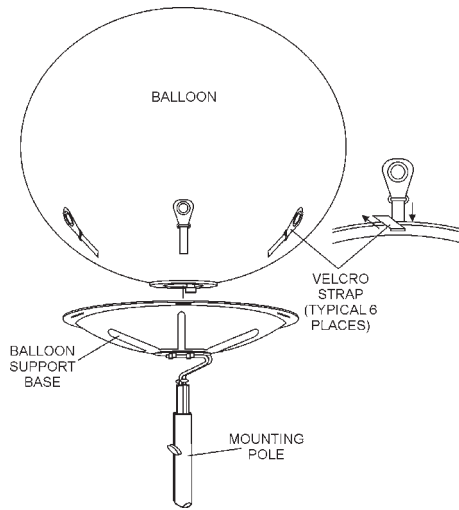

Figure 7. Attaching Balloon to Support Base
- Slowly invert the balloon and place over the installed balloon support base (Figure 7), making sure lamp fixture is facing down and the Velcro straps are aligned with the holes on the balloon support base. Insert Velcro strips into the holes and fasten securely.